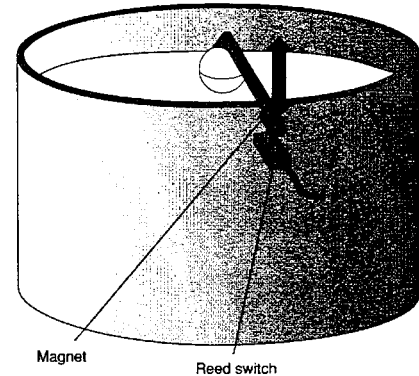

Figure 3.
11. A magnet mounted on a float arm is to actuate a reed switch when the liquid level in a container drops below a required level (Figure 3). When the reed switch is actuated a supply valve opens and increases the level in the tank. A lamp is to blink with a period of 1 second (0.7sec. on, 0.3sec. off) when the valve is open. The valve is to close automatically after the required level in the container is reached. An operator must be able to stop the process at any time.